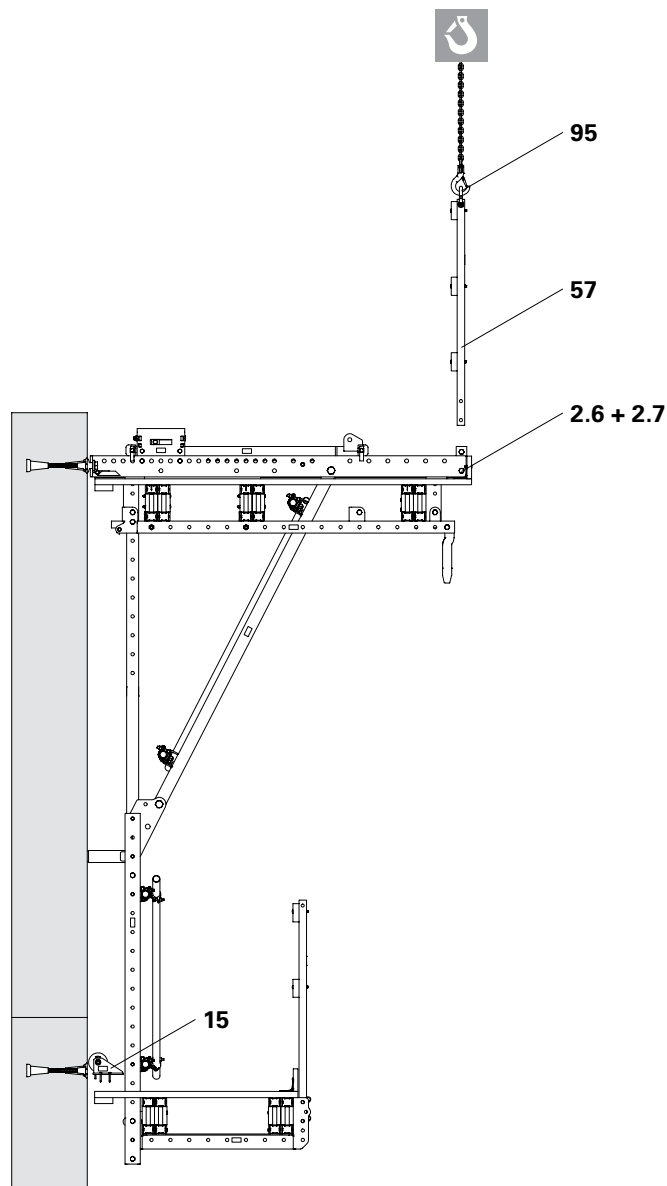

Fig. B7.02
2. Dismantle Start Roller ACS (15).
3. Mount Crane Eye CB 240-2 0.7 t (95) in the top holes of the Guardrail Post SCS 150 (57).
6. Set guardrail unit down on designated area and dismantle. (Fig. B7.02)